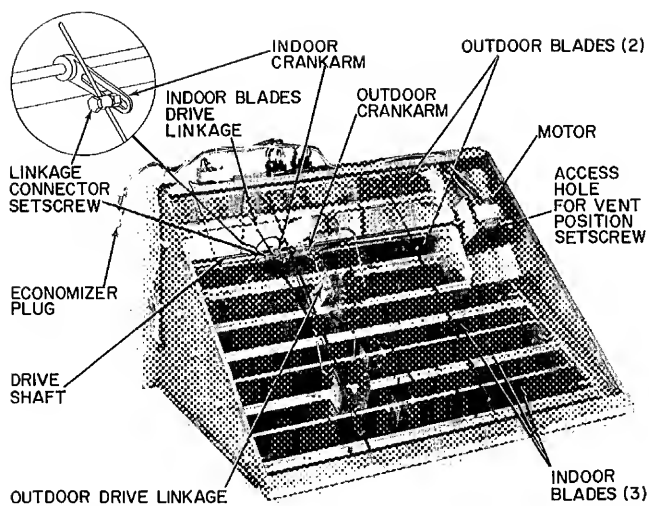

Fig. 24 — Economizer Details (008 Units)
6. Release indoor blades drive linkage by loosening linkage connector setscrew at indoor crankarm on drive shaft. See Fig. 24.